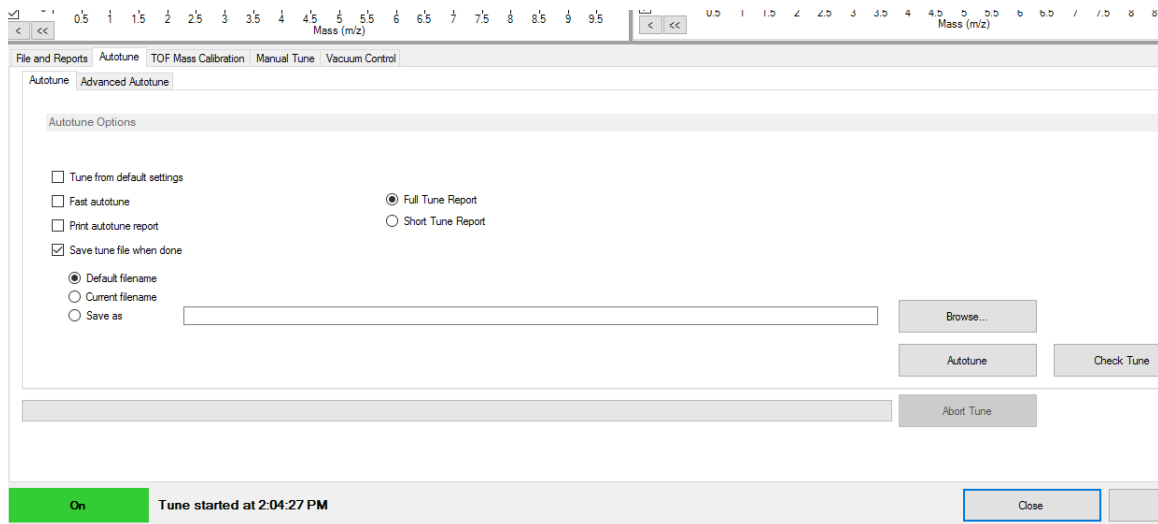

Figure 14. EI Autotune
- 2 In the **Instrument Control** panel, click the **MS Tune** icon  to display the **GC/Q-TOF Tune** dialog. (See **Figure 14**, "EI Autotune," on page 53.)